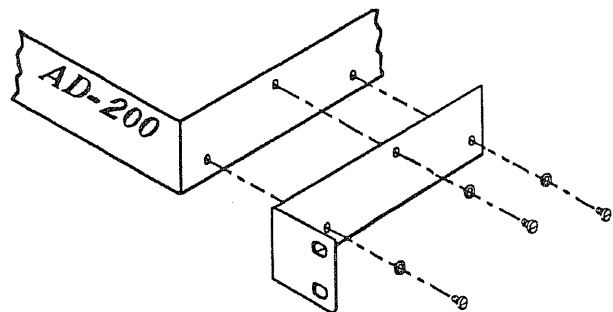

Figure 6
- Align the rack bracket with the holes on the side of the unit. See Figure 6